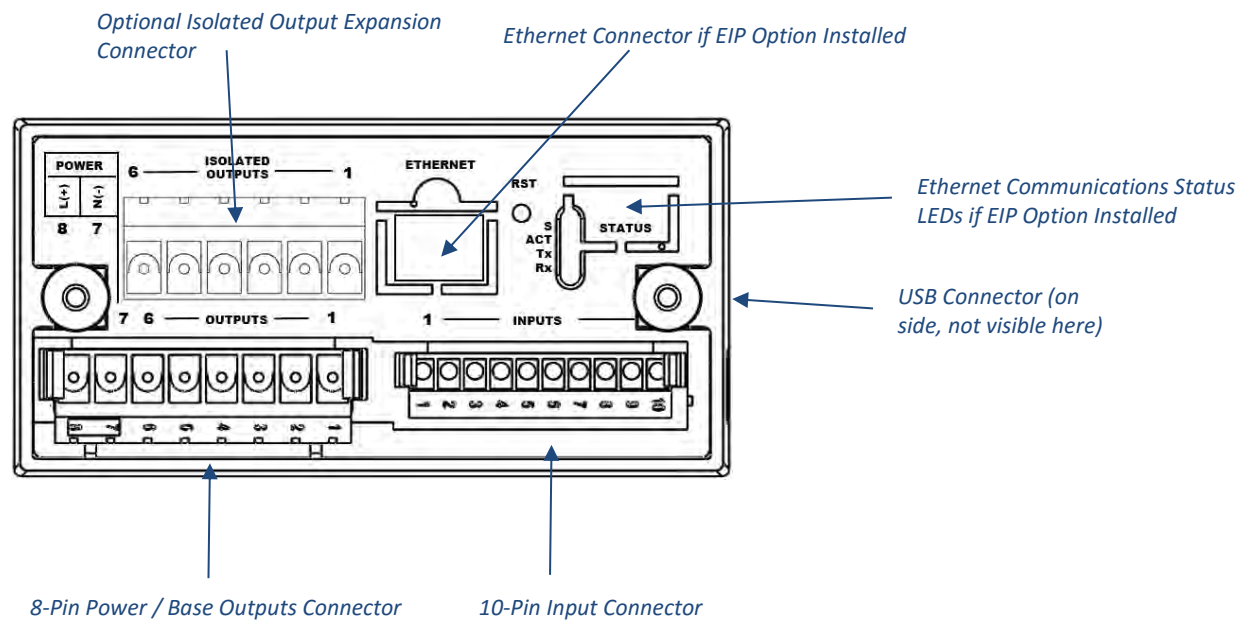

Figure 2 – CN8Pt, CN8Dpt and CN8Ept Models: Back Panel Connections (With Isolated Output Expansion Board)
- Figure 2 – CN8Pt, CN8DPt and CN8EPt Models: Back Panel Connections